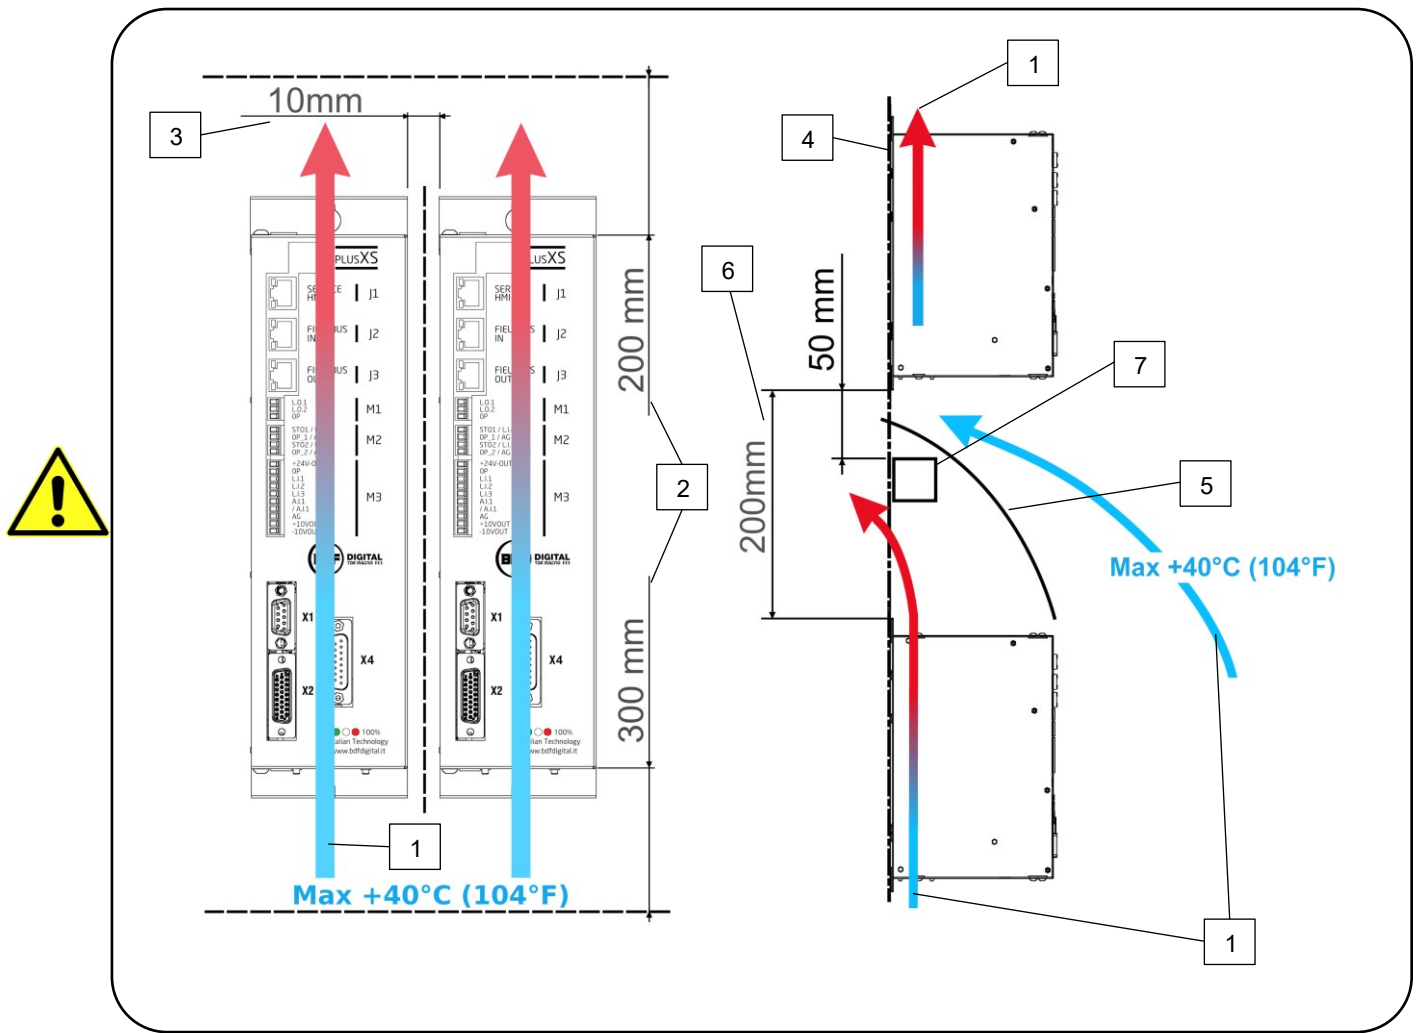
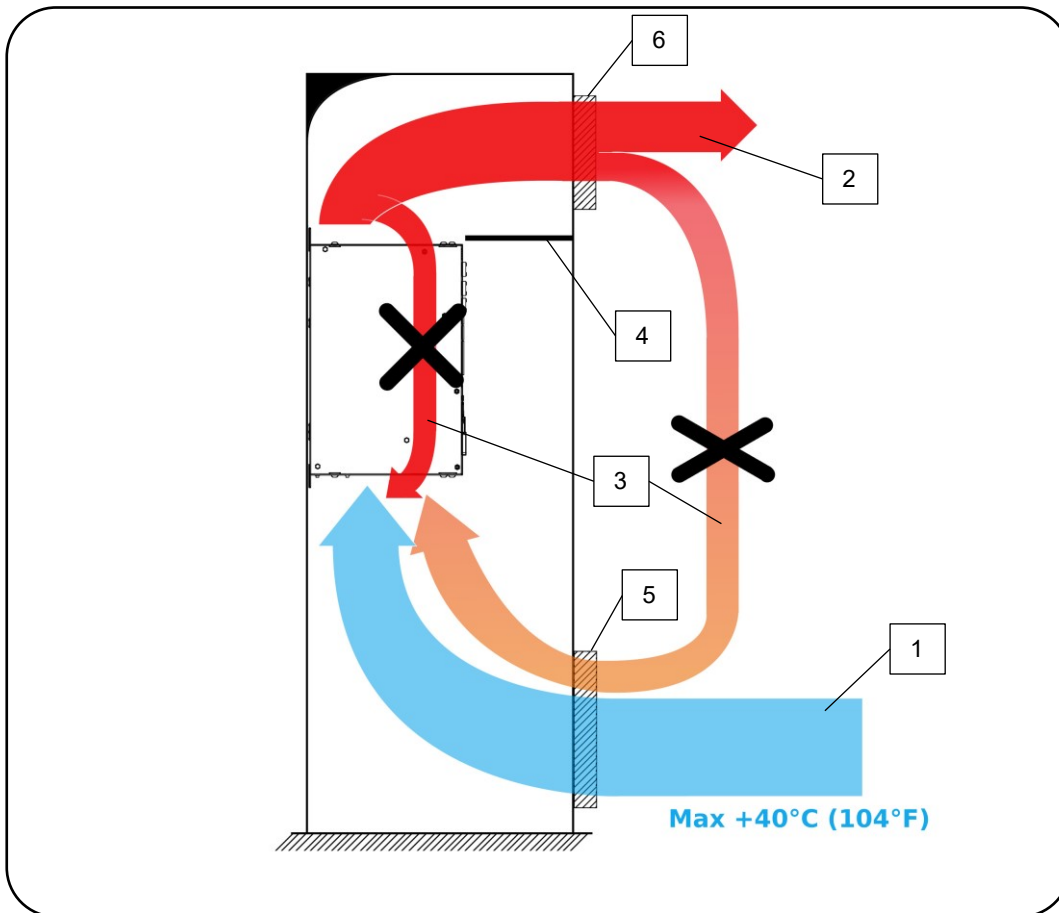

FIG. 13- Installazione / Installation
FIG. 14- Ventilazione armadio / Cabinet cooling
**SE MOLTI DRIVE OPDE PLUS XS SONO INSTALLATI ASSIEME, INSTALLARLI COME MOSTRATO IN FIG. 13 AND FIG. 14 PER ASSICURARE UNA ADEGUATA VENTILAZIONE E PREVENIRE CHE INTERFERISCANO TRA LORO.**
**IF SEVERAL OPDE PLUS XS DRIVES ARE TO BE INSTALLED, INSTALL THEM AS ILLUSTRATED IN FIG. 13 AND FIG. 14 TO ENSURE PROPER VENTILATION AND PREVENT THE COOLING AIR FLOW FROM ONE DRIVE FROM INTERFERING WITH THE OTHER DRIVE**